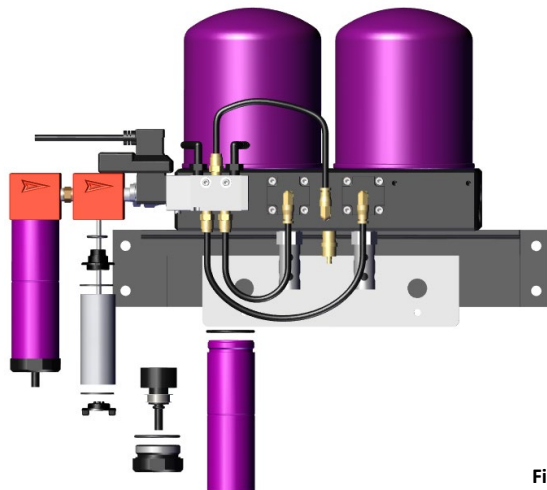

Figure 5
- Remove bottom baffle, filter element, top adaptor, and O-ring. *Figure 5*